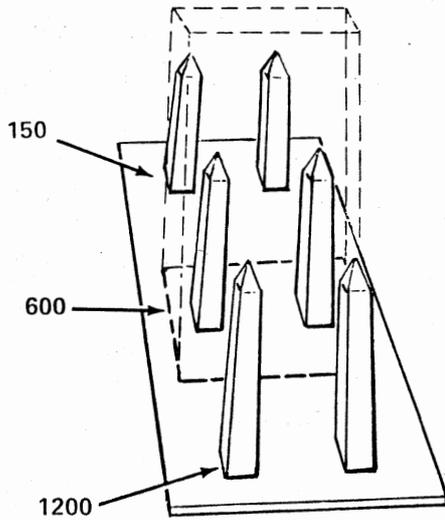
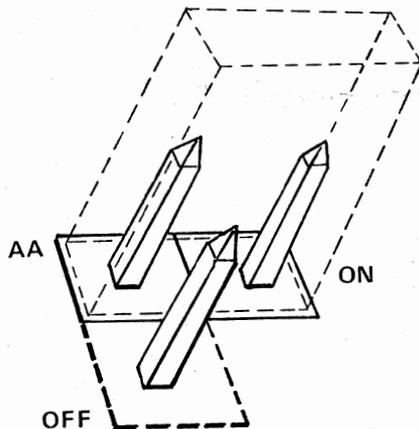
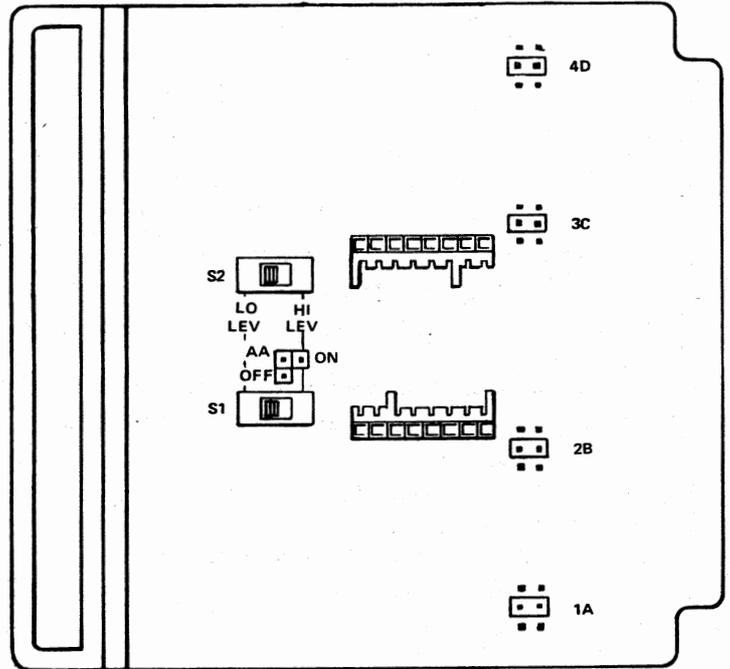

Figure 3. Transformer Plug-In Option For Transformer Impedance Biasing
Figure 4. AA Option In ON Position
Figure 5. Option And Connector Locations And Positions
6.01 The 401 is provided with plug-in options (Figures 3, 4, and 5) for 150-, 600-, and 1200-ohm input and output impedences (factory set for 600 ohms). Another plug-in option, AA, is in the OFF position when used with a plug-in receive equalizer; otherwise, it should be in the ON position (factory set for ON). There are two switches, S1 and S2, for setting high and low gains in the receive and transmit amplifiers.
6.04 Figure 3 shows a typical transformer option terminal block on the 401 Issue 5, and Figure 4 shows the terminals of the AA option. Figure 3, strapped for 600-ohm line impedance, is shown with a dotted line to indicate a seated option. Figure 4 shows the AA option in the ON position, which would bypass the subassembly. Figure 5 shows the locations and factory set positions of the plug-in and switch options on the 401 (Issue 5).